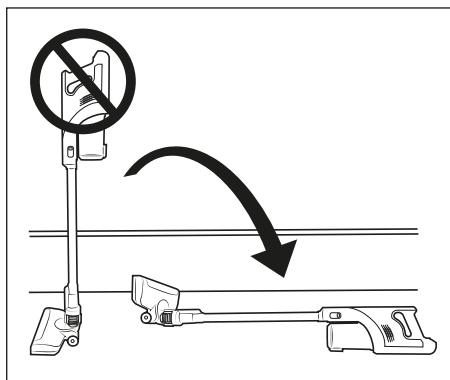

Fig. 9
- The suction openings of the appliance and the floor brush ② and the suction pipe ④ must be free at all times and must not be blocked. Blockages lead to overheating and damage to the motor.
- Make certain that the HEPA dust filter ⑤ is always inserted before using the appliance.
- Do not place the vacuum cleaner upright when you want to put it down or take it out of your hand in the meantime. To do this, place the vacuum cleaner in the wall bracket ⑬ or lay it on the floor (see Fig. 9 and 10). The vacuum cleaner may otherwise tip over and be damaged and possibly damage other objects when tipping over.